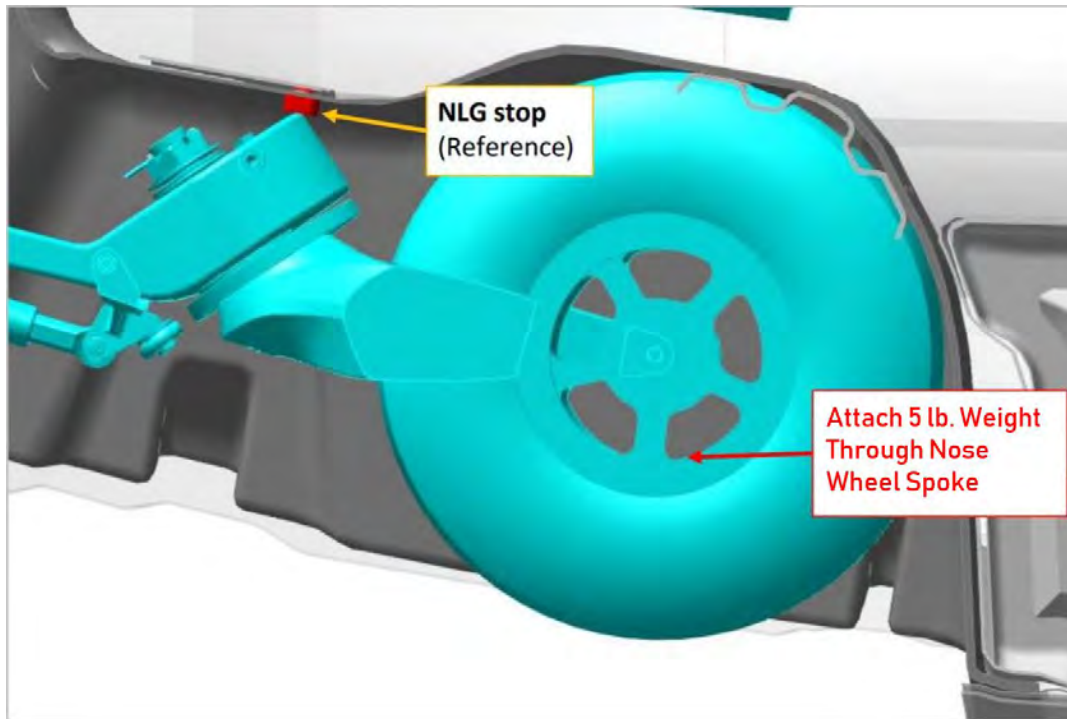

FIGURE 15-40
3. Attach 5lb weight (ITL012297) to NLG wheel. See Figure 15-40.